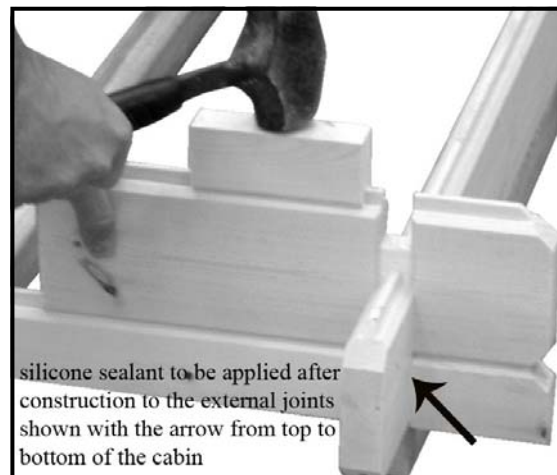

Fig C2
2. Once gables are in place knock down all the walls again as in fig C2 to ensure all the walls are fully home